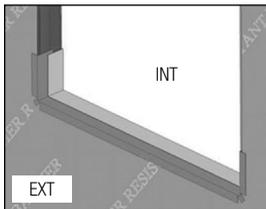

FIG. 10
F) Flashing tape must cover the entire sill plate. If needed, apply an additional flashing piece over the first one (*start from the exterior and work toward the interior*). Maintain a minimum 1" overlap. (Fig.10)